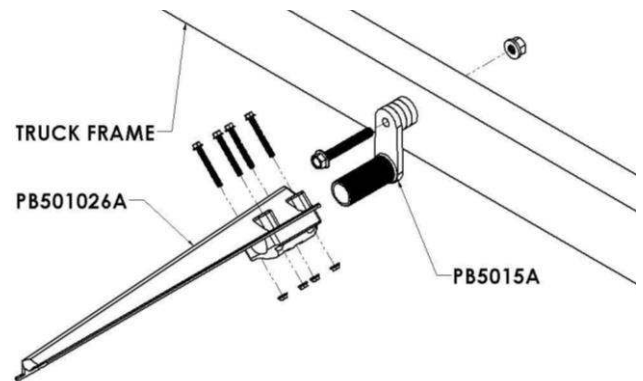

Figure 11
A. Once the brackets are placed in position with the fender, securely tighten the 5/8" x 4-1/2" bolts that go through the PB5015 steel swivel to attach the swivel securely to the frame (Figure 11). **Recommended torque is 160-170 FT-LBS**